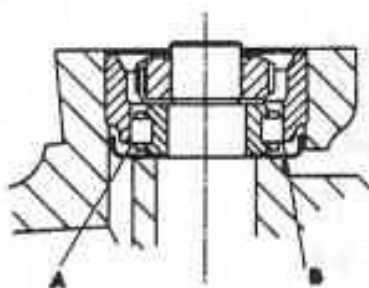
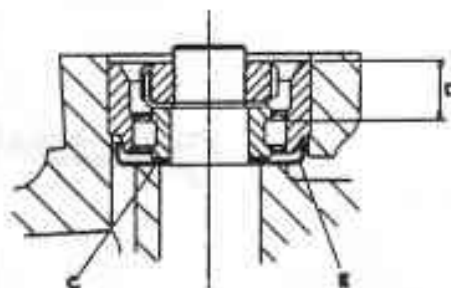

FIG. H14.
FIG. H15.
Whenever the stub axles have to be removed from an earlier model for reconditioning, inspect the inner roller race fitted to the upper end of the pivot pin for correct height in relation to its outer race. A condition can arise whereby the lower end of the rollers (A, Fig. H14) protrudes below the lower edge of the outer race, i.e. at point 'B' due to an accumulation of adverse limits of machined parts. Fig. H15, shows the correct position of the rollers, i.e. the lower end face of the rollers are well above the lower edge of the outer race. This applies to chassis numbers bearing the suffix letters AK to FU, in the case of Bentley cars; WTA to WLE in the case of the Silver Wraith cars; and SBA for the Silver Dawn.
- (1) Having fully tightened nut at the top of pivot pin, remove nut and lockwasher beneath it, leaving pivot pin in position. It is essential to ensure that the upper outer race is fully home in its downward direction in the stub axle.
- (11) Place a straight-edge across the top face of the outer race of the upper roller bearing assembly of the pivot pin (not across the top face of the stub axle). With a small depth gauge, measure the distance downwards from the top face of the outer race to the top face of one of the rollers (not the brass roller cage), i.e. dimension 'D' Fig. H15 and note.
- (b) If dimension 'D' is between the limits of .480" - .515" (12.2 - 13 m/m), then it will be necessary to remove the pivot pin and fit a .040" (1 m/m) thick packing washer ('C' Fig. H15), Part Number R.4468, between the oil trough 'E' and the inner roller race.